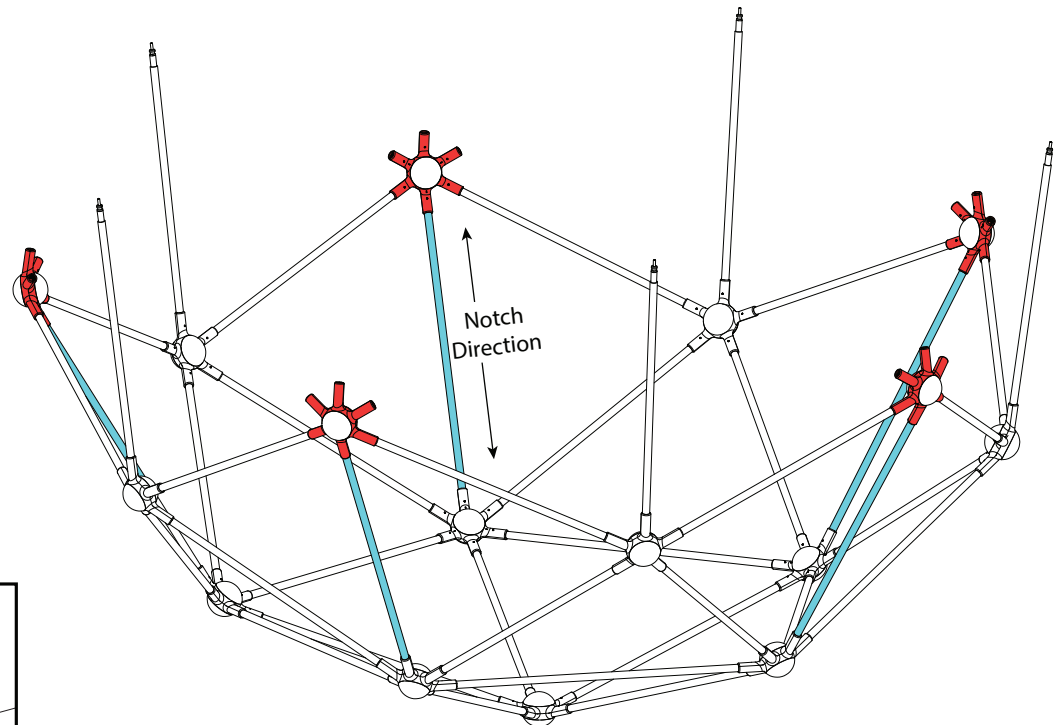

Fig. 8
- b. Attach H6 Hubs to C2 Arms and adjacent C1 Arms, as shown in Fig. 8.